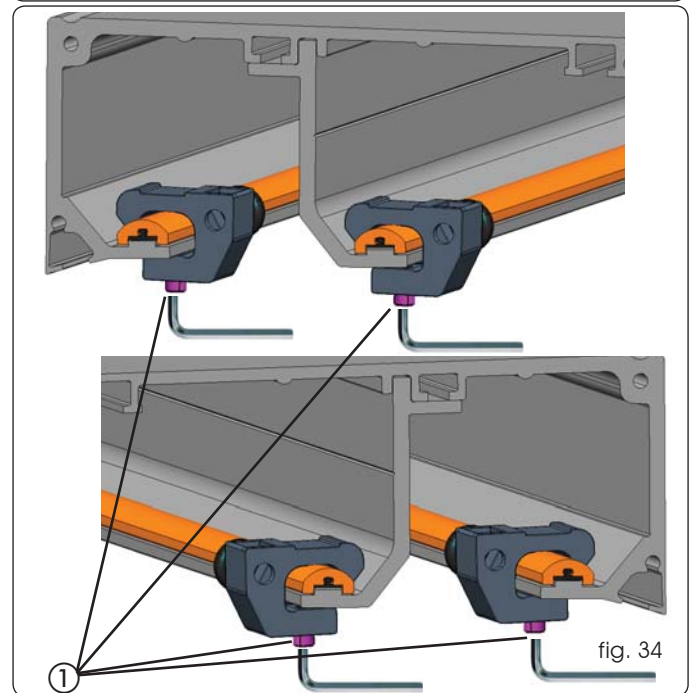
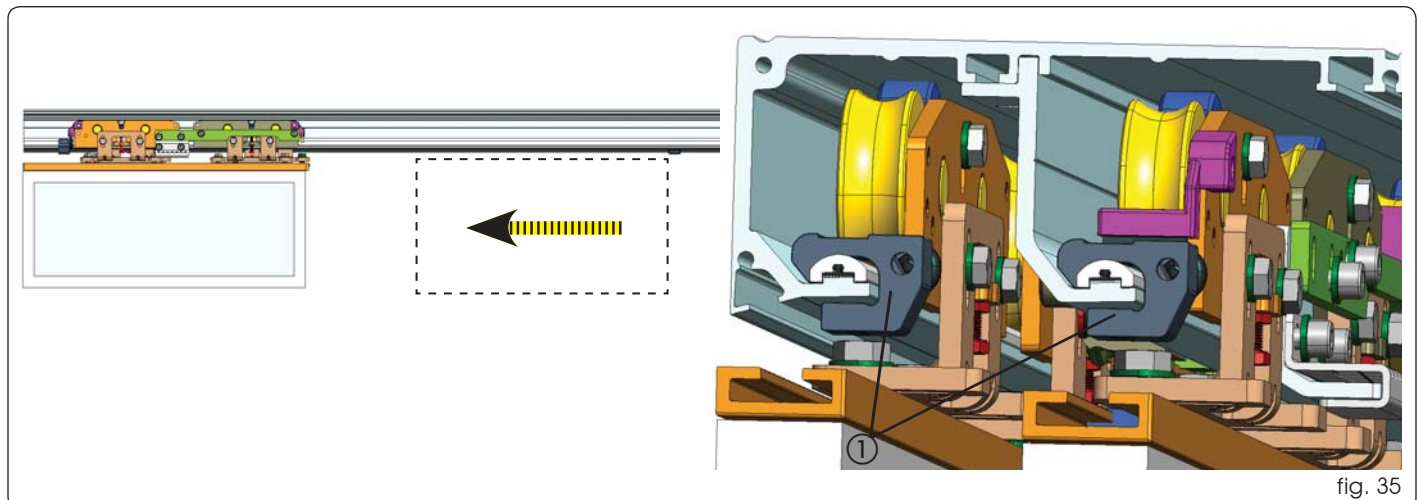

fig. 34
fig. 35
- Loosen the Allen screws of the mechanical stops (Fig. 34 ref. ①) and take them to the ends of the support profile.
- Take the leaf or leaves into opening position (fig. 35), take the mechanical stop near to the carriage until the two parts touch and tighten the Allen screws (Fig34 ref. ①).